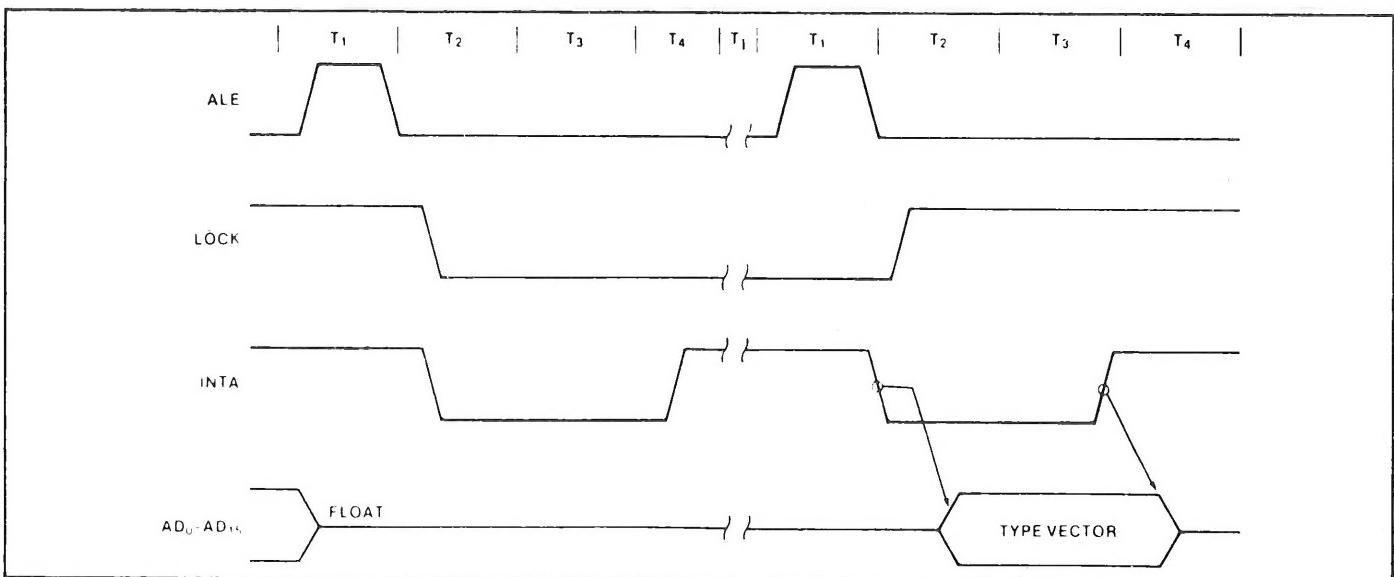

Figure 6. Interrupt Acknowledge Sequence
During the response sequence (figure 6) the processor executes two successive (back-to-back) interrupt acknowledge cycles. The 8086 emits the LOCK signal from T₂ of the first bus cycle until T₂ of the second. A local bus "hold" request will not be honored until the end of the second bus cycle. In the second bus cycle a byte is fetched from the external interrupt system (e.g., 8259A PIC) which identifies the source (type) of the interrupt. This byte is multiplied by four and used as a pointer into the interrupt vector lookup table. An INTR signal left HIGH will be continually responded to within the limitations of the enable bit and sample period. The INTERRUPT RETURN instruction includes a FLAGS pop which returns the status of the original interrupt enable bit when it restores the FLAGS.
read (RD) signal and the address bus is floated. (See Figure 6.) In the second of two successive INTA cycles, a byte of information is read from bus lines D₇-D₀ as supplied by the interrupt system logic (i.e., 8259A Priority Interrupt Controller). This byte identifies the source (type) of the interrupt. It is multiplied by four and used as a pointer into an interrupt vector lookup table, as described earlier.